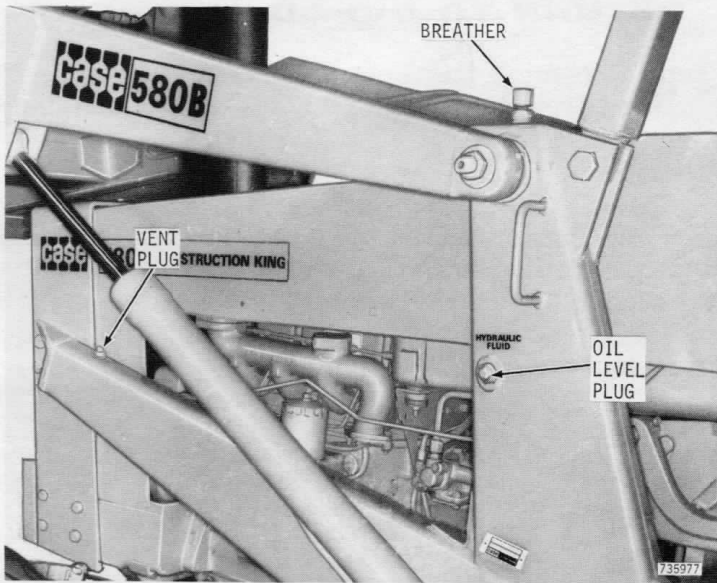

Figure 68 - Reservoir Breather, Level and Vent Plugs
7. Remove the vent plug from the front of the subframe, Figure 68.